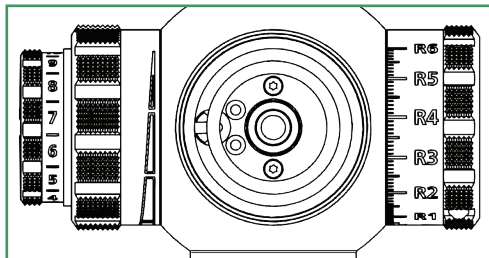
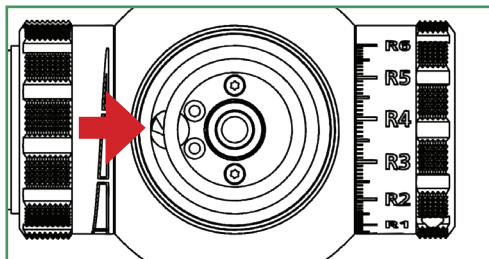

Fig. 1
Fig. 2
**Note:** If the elevation knob has been completely removed, the mechanism to indicate the second revolution may be brought into a position that prevents the elevation knob from being turned more than one revolution (see fig. 1). Before the cap is reattached, make sure that the cylinder is in the right position, as seen in fig. 2). The cylinder can be properly aligned using a small screwdriver.